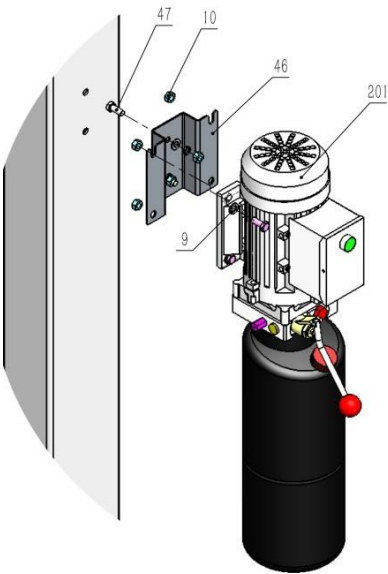

Fig.31
1. Install motor fixing bracket (See Fig. 31)